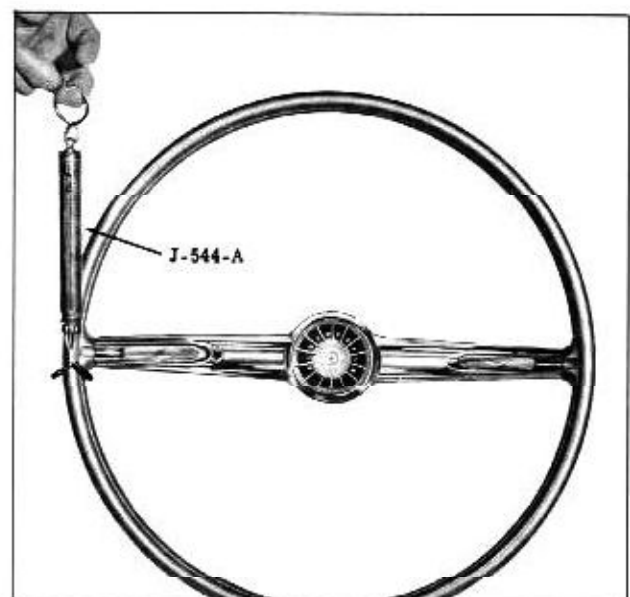

Fig. 4-5 Checking Worm Bearing Preload
3. With spring scale Tool J-544 at the rim of the steering wheel, measure the pull which is required to keep the wheel in motion at about 30° off straight ahead position. (Fig. 4-5).